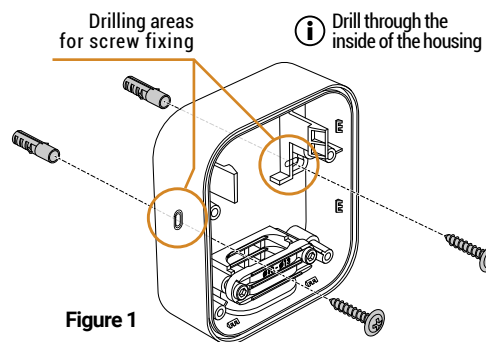

Figure 1
- 2 Fix the Surface Mounting Box to the wall (use fixings - not included - suitable for the bracket) - see **figure 1**.